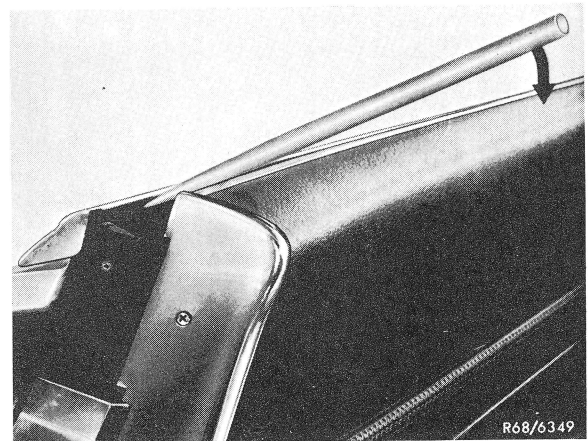

Fig. 1
- 2 Lift trimstrip from clips as shown in Fig. 1.